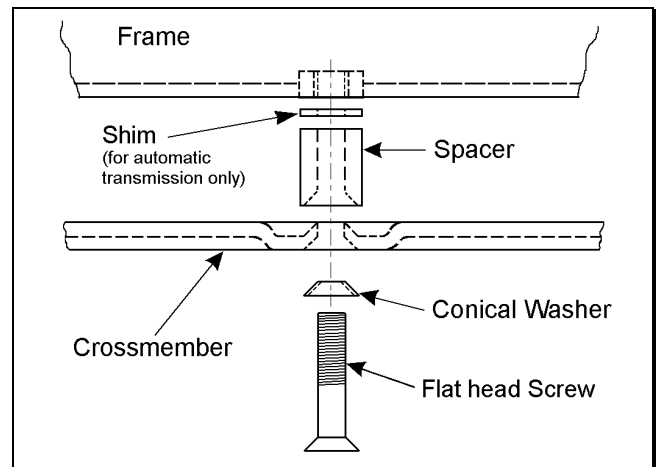

Figure 18
- 4)  If flat head screws were removed, install a conical washer and apply thread lock to 3 flat head screws from kit 860161. Insert the screws through the crossmember, spacers, and into the frame. See figure 18.